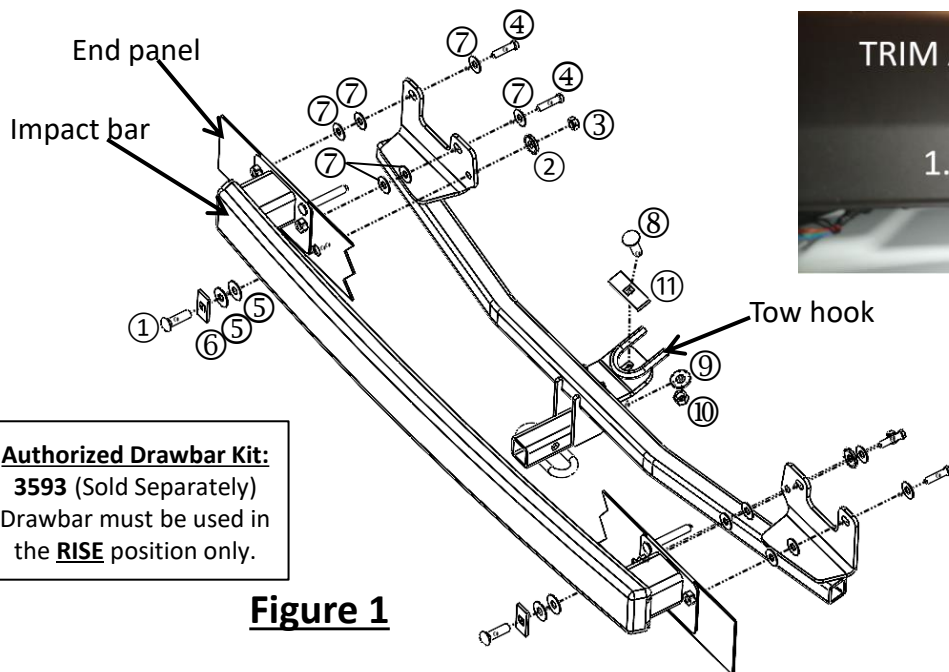

Figure 1
⑧	Qty. (1)	Carriage Bolt 1/2"-13x1 3/4" GR5
⑨	Qty. (1)	Conical washer 1/2"
⑩	Qty. (1)	Hex nut 1/2"-13, GR5
⑪	Qty. (1)	Spacer 1/4" x 1" x 3"
- Remove plastic trim piece** – Use flathead screwdriver to remove (3) push rivets from plastic trim piece located under fascia driver's side. Use phillips screwdriver to loosen (1) christmas tree screw from plastic trim piece. Remove and return to owner.
- Remove taillights** – Use phillips screwdriver to remove (2) screws from driver side taillight. Use plastic trim tools to gently disconnect the taillight from the vehicle and set aside. Repeat this process for passenger side.
- Remove hardware from fascia** - **a)** Use flathead screwdriver to remove (2) push rivets connecting fascia and impact bar. **b)** Use flathead screwdriver to remove (2) push rivets from bottom passenger side of fascia. Repeat for driver side. **c)** Use phillips screwdriver to remove (1) screw under driver side taillight and flathead screwdriver to remove (1) push rivet. Repeat for passenger side.
- Loosen wheel well liner** – Use phillips screwdriver to remove (4) screws from wheel well liner on driver side. Repeat this process for passenger side
- Remove end panel/impact bar hardware** – Using 13mm socket remove (4) 8mm screws from impact bar/end panel. Return to owner.
- Install hitch** – Raise hitch into position. Fasten 8mm and 7/16 hardware to brackets and then 1/2 hardware to tow hook (loosely tighten) **see Figure 1**. NOTE: Tape washes to bracket for easier installation.
4. Loosen wheel well liner – Use phillips screwdriver to remove (4) screws from wheel well liner on driver side. Repeat this process for passenger side
6. Remove end panel/impact bar hardware – Using 13mm socket remove (4) 8mm screws from impact bar/end panel. Return to owner.
7. Install hitch – Raise hitch into position. Fasten 8mm and 7/16 hardware to brackets and then ½ hardware to tow hook (loosely tighten) **see Figure 1**. NOTE: Tape washes to bracket for easier installation.